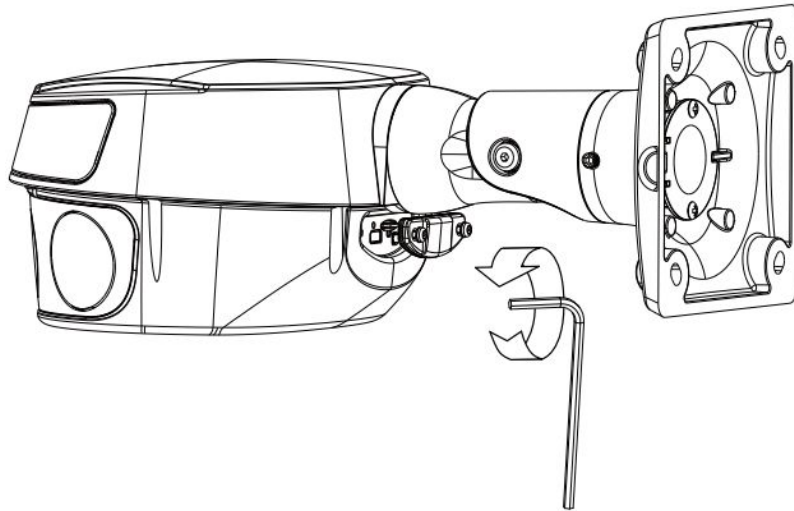

Figure 1-8
Step 1 Unscrew the access panel, located behind the camera body, to access the SD card slot and reset button. See Figure 1-8.